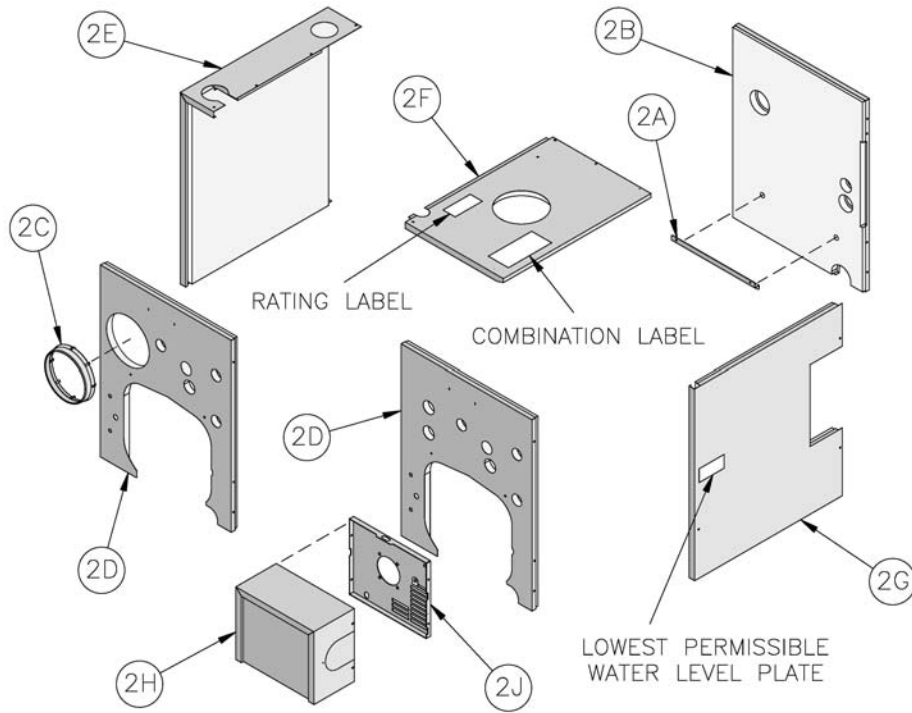

Figure 6: Knockdown Boiler Jacket Assembly
I. INSTALL BOILER JACKET. (See Figure 6).
1. Remove burner swing door and hinge assembly. Remove one (1) 5/16"-18 flange nut and washer from right side latching stud and one (1) 5/16"-18 x 3 1/2" cap screw on left side used for securing burner swing door to the boiler section. Swing door open and remove 5/16" hairpin cotter from rear hinge pin. While holding swing door remove hinge pin and set door aside. Remove two (2) 5/16" - 18 x 3/4" long cap screws securing the hinge bracket to the boiler section.
2. Install jacket rear panel support bracket. (See Figure 6, Item 2A). Align bracket with two (2) 5/16" - 18 tapped holes in rear section and secure with two (2) 5/16" - 18 x 1/2" long cap screws.
3. Install jacket rear panel. (See Figure 6, Item 2B). Align holes in jacket rear panel and support bracket. Secure with two (2) #8 x 1/2" long sheet metal screws.
- a. Install black plastic collar extension to jacket front panels for 7-13/16" diameter tankless heater opening. (See Figure 6, Items 2C and 2D). Engage two (2) of the collar retaining tabs over raw edge of jacket opening. Provide support behind the panel with one hand while applying pressure on collar to snap each tab over edge of opening until all eight (8) tabs are securing collar.
- b. Install jacket front panel. Locate two (2) 11/32" diameter holes, one round, one obround, on front panel approximately 16" up from the bottom of the panel. Align these holes with the similarly located 5/16" - 18 tappings on the front section. Secure with two (2) 5/16" - 18 x 1/2" long cap screws.
5. Install jacket left side panel. (See Figure 6, Item 2E). Fold panel at perforation keeping insulation inward. Align left side panel mounting holes with the front and rear panel holes. Secure with #8 x 1/2" long sheet metal screws.
6. Install jacket top panel. (See Figure 6, Item 2F). Place jacket top panel on boiler and secure to front, rear and left side panels with #8 x 1/2" long sheet metal screws.
7. Install jacket right side access panel. (See Figure 6, Item 2G). Align right side panel mounting holes with front and rear panel holes. Secure with #8 x 1/2" long sheet metal screws.
- a. Locate both the Rating Label and Combination Warning Label (P/N 8142803). Remove paper backing from the labels and apply to the jacket top panel in approximate locations shown in (Figure 6, Item 2F).
- b. On steam boilers only; locate Lowest Permissible Water Level Plate (Form No. 1204 shipped in Steam Trim Carton). Align plate with two 1/8" diameter holes located near the front edge; in line with the lower sight glass tapping, of the jacket right side access panel. Attach plate with two (2) #8 x 1/2" long sheet metal screws. (See Figure 6, Item 2G).